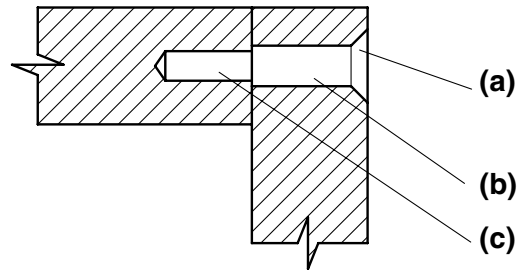

Fig. 4
- 8 The metal parts shown in Fig. 4 have been drilled in preparation for threading. Name each of the features.